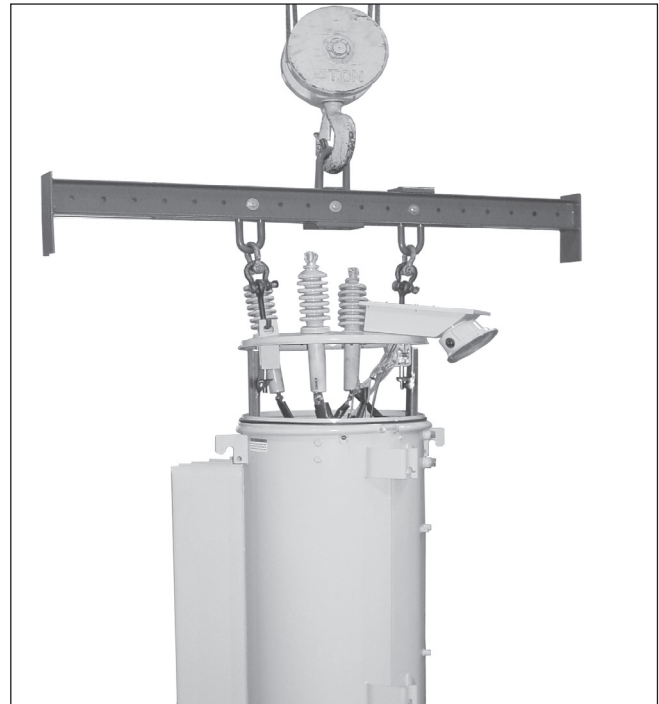

FIGURE 11:
- The regulator can now be removed from the main tank using the cover lifting eyes (Figure 11).